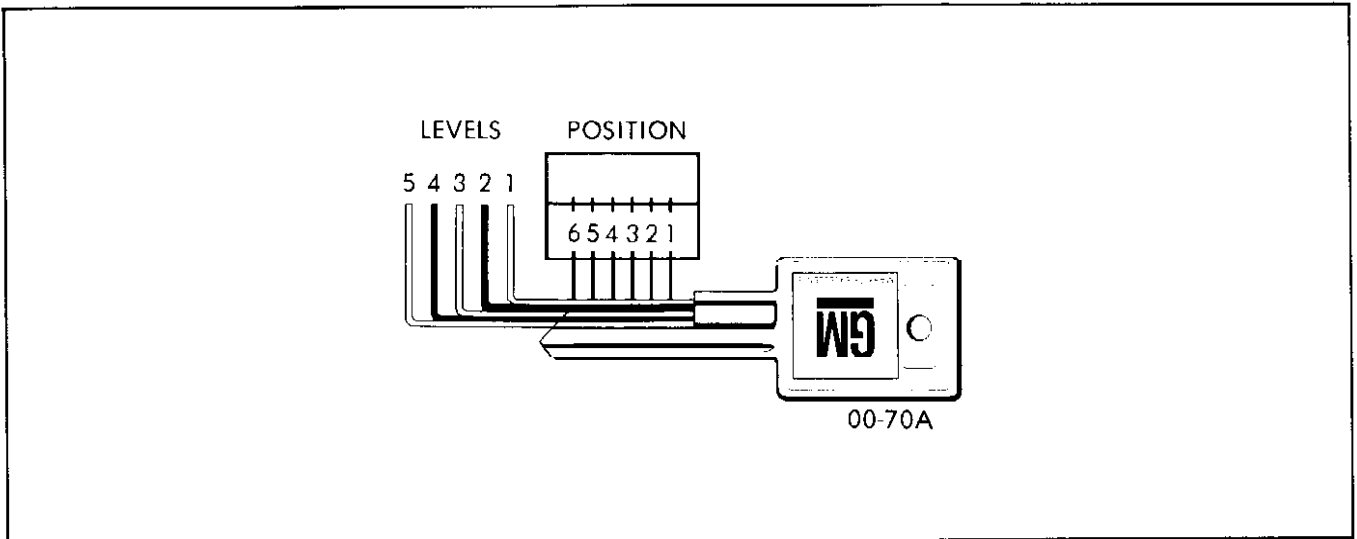

Figure 00-1 - Key Code Diagram
Key code numbers are stamped on the "knock-out" plug in the key head. After the code has been recorded by the owner to facilitate replacements or duplications of a key, the plugs should be knocked out of the key heads. If key code numbers are not available from records or from the "knock-out" plug, the code can be determined by laying the key on the diagram in Figure 00-1, or from the ignition lock cylinder housing and glove compartment lock assemblies themselves. The station wagon ignition lock cylinder will be marked with the key code number for the tailgate lock cylinder, the door lock cylinders and ignition lock cylinder.
For "A" type lock cylinder assemblies, the key code number is stamped on the ignition lock cylinder housing; for "B" type lock cylinder assemblies, the number is stamped on the glove compartment (marked on the tumbler carrying plug) lock cylinder. From these numbers the lock combination can be determined by use of a code list for cutting new keys for coding a replacement service lock cylinder assembly. Door lock, rear compartment, and tailgate lock cylinders coded by the car division do not have key code numbers stamped on them; therefore, codes may be determined either from a ignition or glove compartment lock cylinder of the same car which will have the same lock tumblers, or from the key code diagram. See Figure 00-1.
1. Lay the key on the Key Code Diagram, Figure 00-1, with the key outlined by the diagram as accurately as possible.